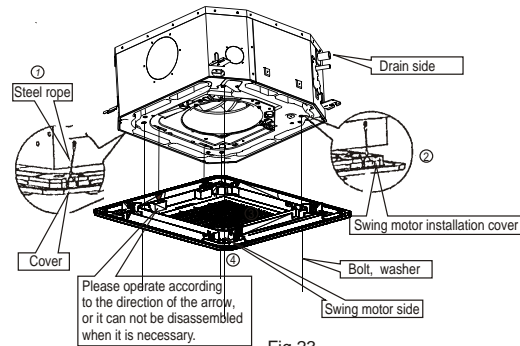

Fig.23
- a. Align the swing motor on the panel to the water receiver of the body properly. (Refer to Fig.23)
- b. Hang the four fixed rope of the main body to the installation cover and the other three covers of the swing motor: (Refer to Fig.23 )
- c. Install the panel on the main body with bolt (M5×16) and washer. (Refer to Fig.23)